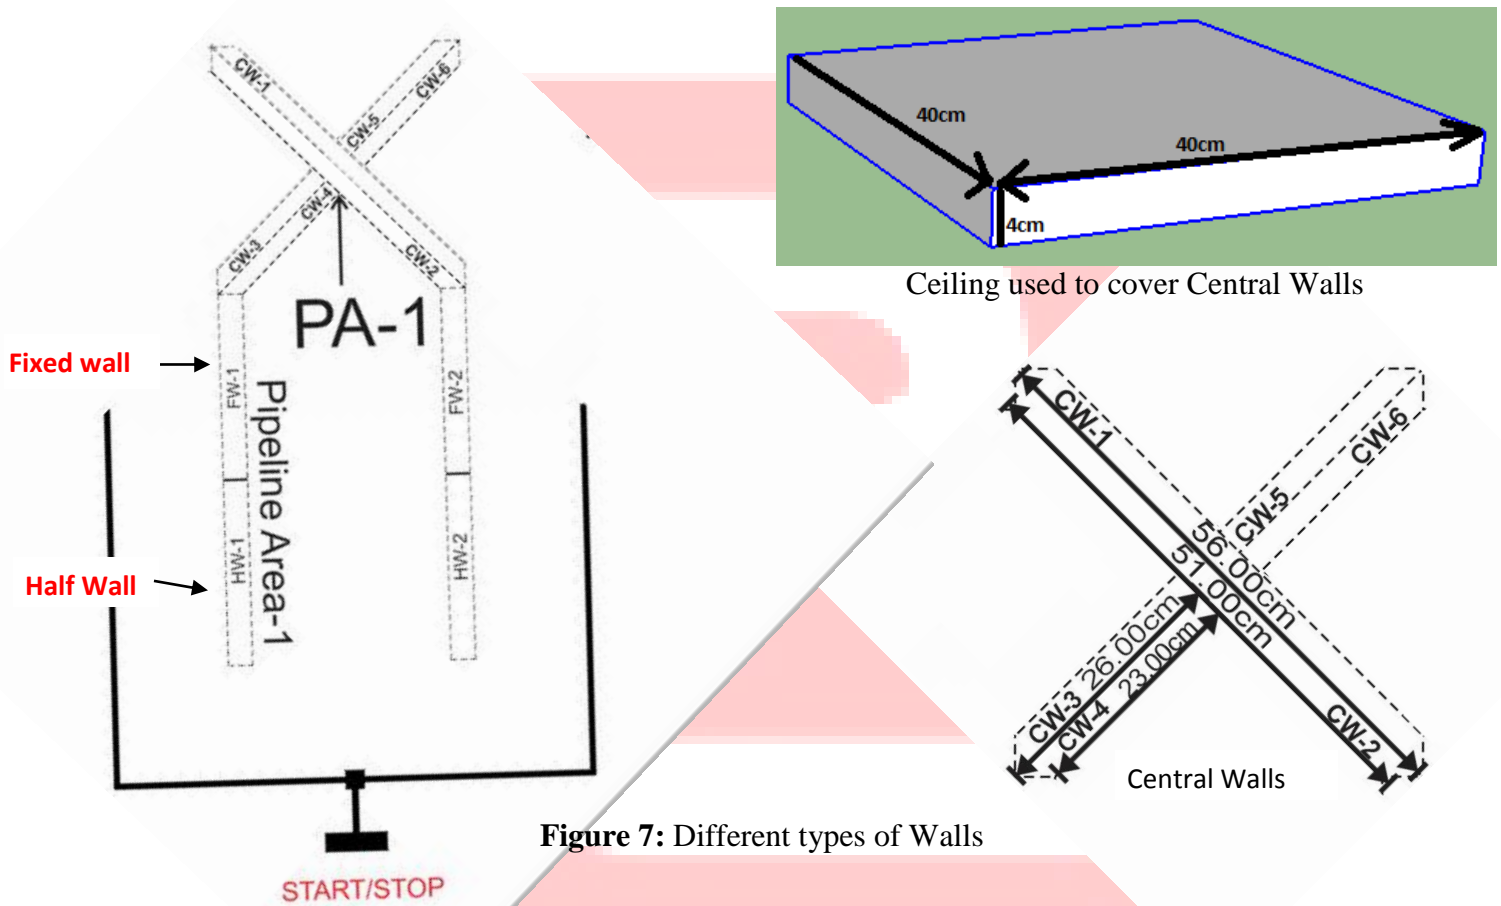

Figure 7: Different types of Walls
There are different types of walls being displayed in Figure 7. The descriptions related to the dimensions of these walls are given in Table 1 below:
- **FW- 1 to 8** are permanently fixed to Central Walls **CW - 1 to 6** as shown in Figure 7.
Note: a) Edges of all the Central Walls should be cut at an angle of 45 degrees as shown in Figure 7.